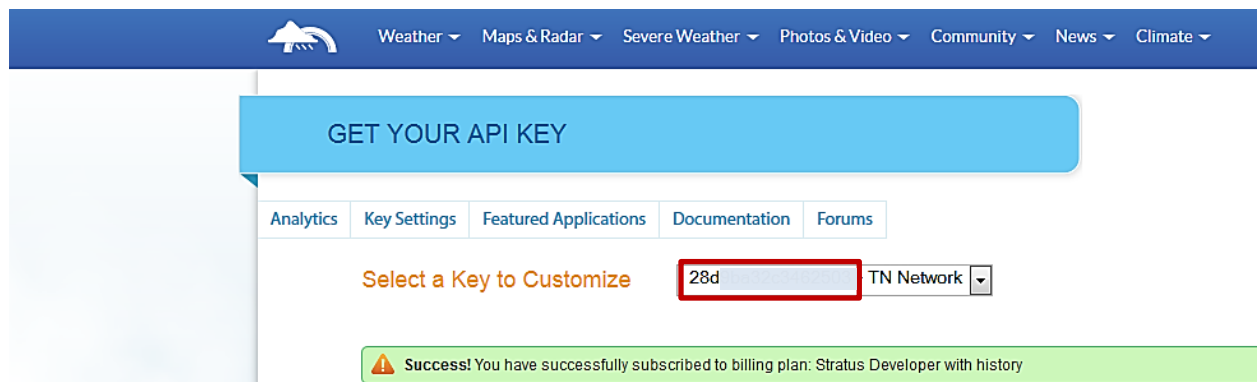

Figure 22: WeatherUnderground API Key
- You now have access to you WeatherUnderground API key. An example API key is shown in the red box of Figure 22: